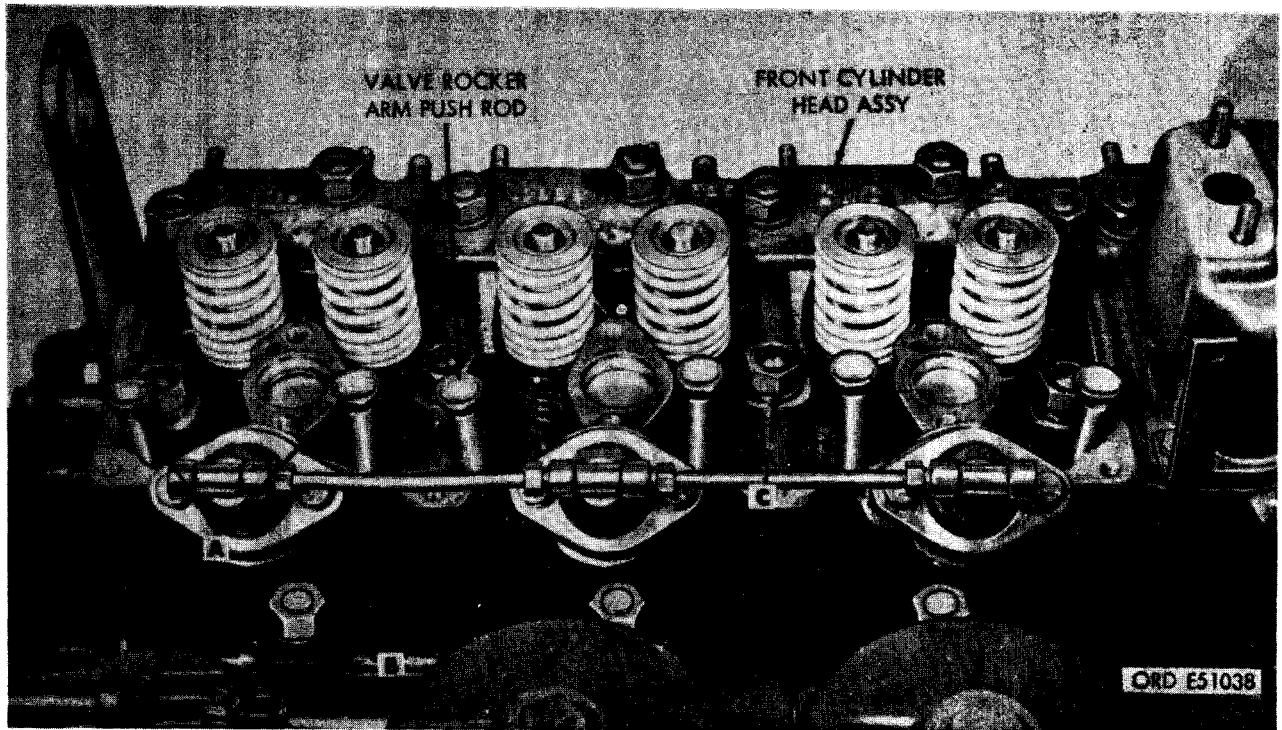

FIGURE 190. REMOVING OR INSTALLING PUSH RODS AND FRONT CYLINDER HEAD ASSEMBLY.
- (6) Figure 190. (A) Refer to figure 188 and remove valve rocker arm push rods. (B) Remove three 9/16-inch plain nuts, and 9/16 id x 3/8 thk special washers on left side of front cylinder head. (C) Remove eleven 9/16- inch plain nuts and 9/16 id x 1/8 thk special washer securing front cylinder head to crankcase.
- (1) Refer to figures 190 through 192 reverse the sequence of illustrations and instructions to install cylinder head gasket and the front cylinder head assembly and tighten nuts in the sequence outlined in figure 195. Install the new head gasket properly.